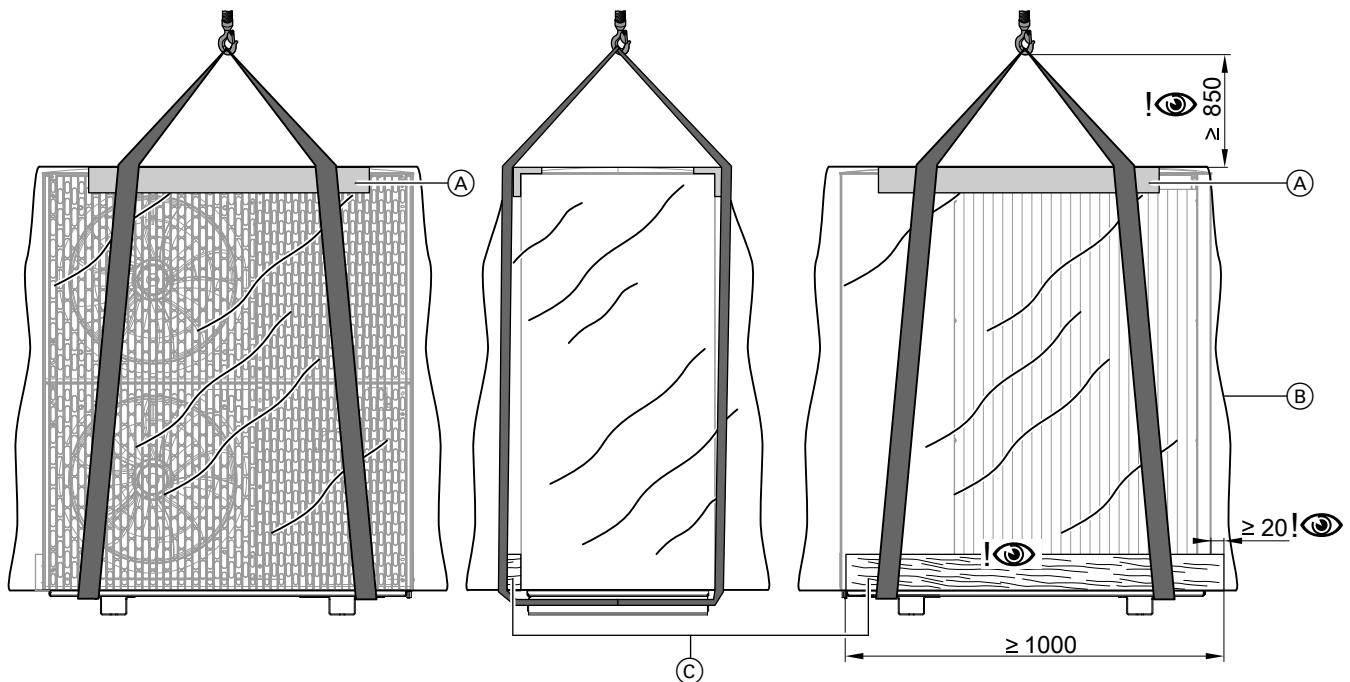

Fig. 8 Transport by crane using the example of the outdoor unit with 2 fans
3. Position edge protection brackets on site at the front and rear upper edges of the outdoor unit. Place slings properly around the outdoor unit: See Fig. 8.